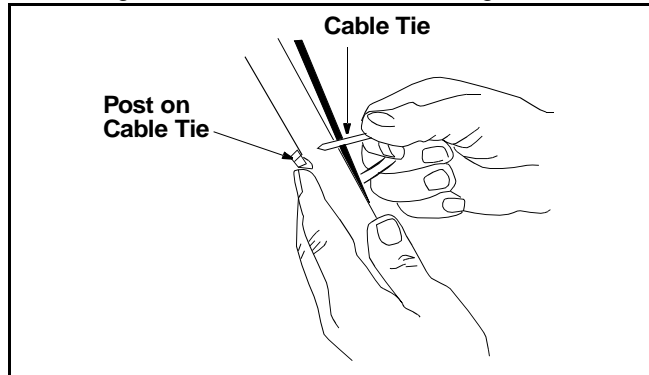

Figure 5
- Insert post of cable ties that are on lower handle into the holes provided on the lower handle. The holes may be on the inside or outside. Pull cable ties tight and cut off the extra. See Figure 5 below.